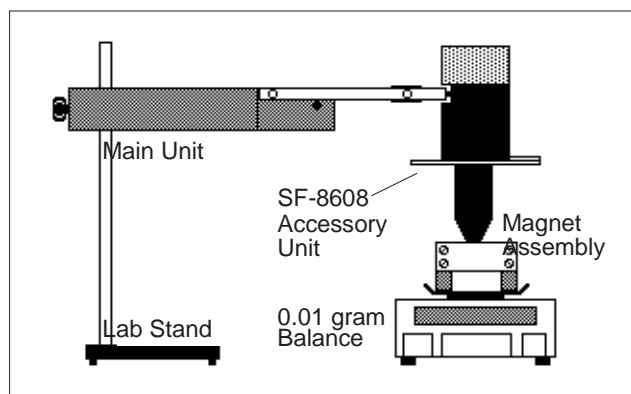

Figure 4.1 Equipment Setup
1. Set up the apparatus as shown in Figure 4.1.